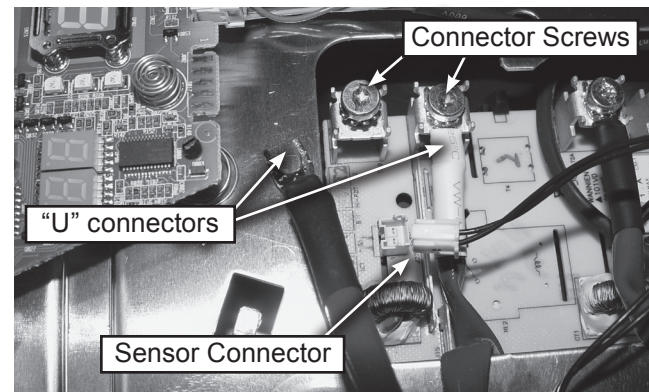

Figure 3
4. Slip the "U" connector out. Disconnect the sensor connection from the P.C. board, and remove the element, see figure 3.